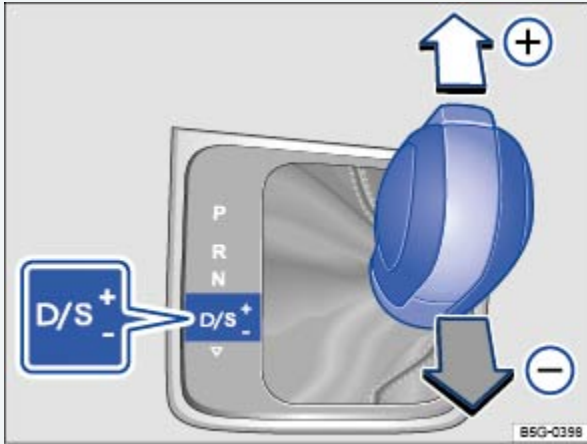

Fig. 142 Selector lever in Tiptronic position.
- Briefly push the selector lever forward ⊕ to upshift into a higher gear or backward ⊖ to downshift into a lower gear ⇒ Fig. 142 .